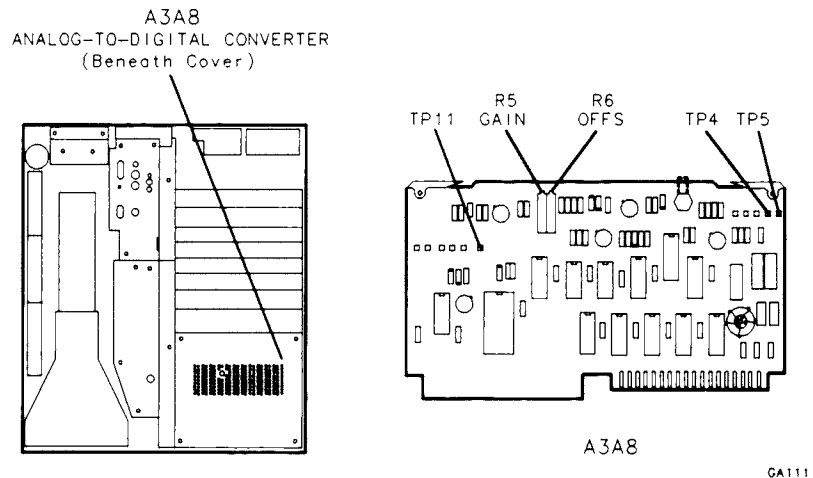

Figure 3-101.
- f. Adjust A3A8R6 OFFS for a square wave displayed on the oscilloscope. The square wave should be approximately 4 V_{p-p}. See Figure 3-101 for location of adjustment.
- l. Adjust A3A8R5 GAIN for a square wave displayed on the oscilloscope. The square wave should be approximately 4 V_{p-p}. See Figure 3-101 for location of adjustment.
- f. Adjust A3A8R6 OFFS until the level at A3A8TP11 is at a maximum ac voltage as indicated by the DVM (approximately 2.0 V ac). See Figure 3-101 for location of adjustment.